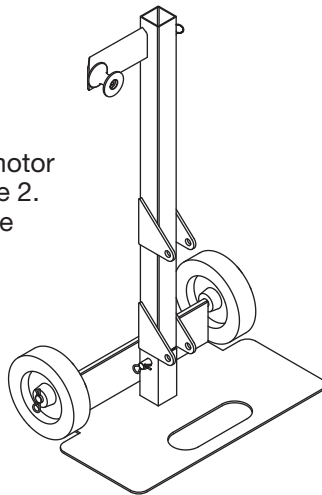

Figure 2
2. Insert the motor adapter assembly into the dolly. Make sure to insert the motor mount as shown in Figure 2. Attach and lock it with the pin.